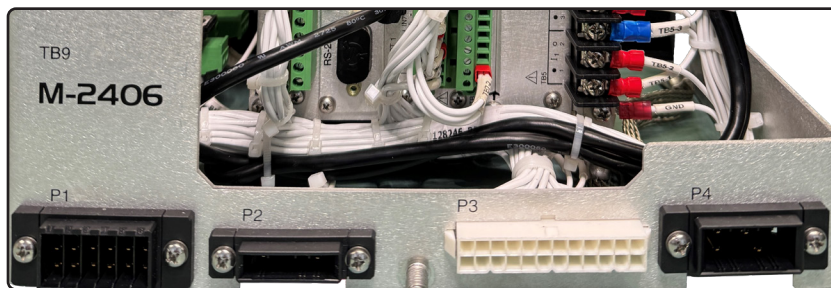

Figure 20 M-2406 Adapter Chassis P1, P2, P3, and P4 Connectors
1. For 14- and 19-pin reclosers, connect **P1**, **P3**, and **P4** connectors to the corresponding ports on the back of the 14- / 19-pin Adapter Chassis (Figure 19). For 26-pin reclosers, also connect the **P2** (53 VDC) connector to the corresponding port on the back of the 26-pin Adapter Chassis (Figure 20).